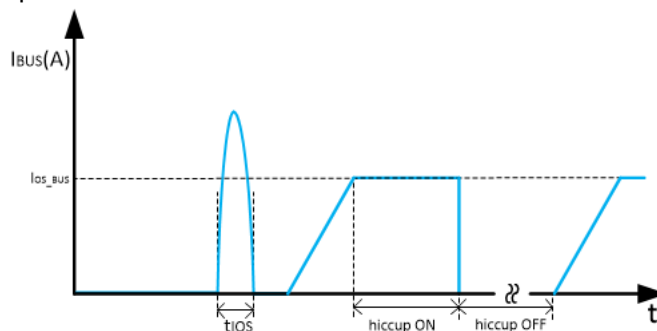

Figure 10-5. Response Time to BUS Short-Circuit
- The first condition is when a short circuit or overload is applied to the USB output when the device is powered up or enabled. There can be inrush current and once it triggers the approximate 8-A threshold, a fast turnoff circuit is activated to turn off the USB power switch within t_{IOS_USB} before the current limit control loop is able to respond (shown in Figure 10-5). After the fast turnoff is triggered, the USB power switch turns off for approximately 200 μ s, and restarts with a soft start. If the USB port is still in overcurrent condition, the short circuit and overload hold the output near zero potential with respect to ground and the power switch ramps the output current to I_{OS_BUS} . If the overcurrent limit condition lasts longer than 4.1 ms, the corresponding USB channel enters hiccup mode with 524 ms of off-time and 4.1 ms of on-time.